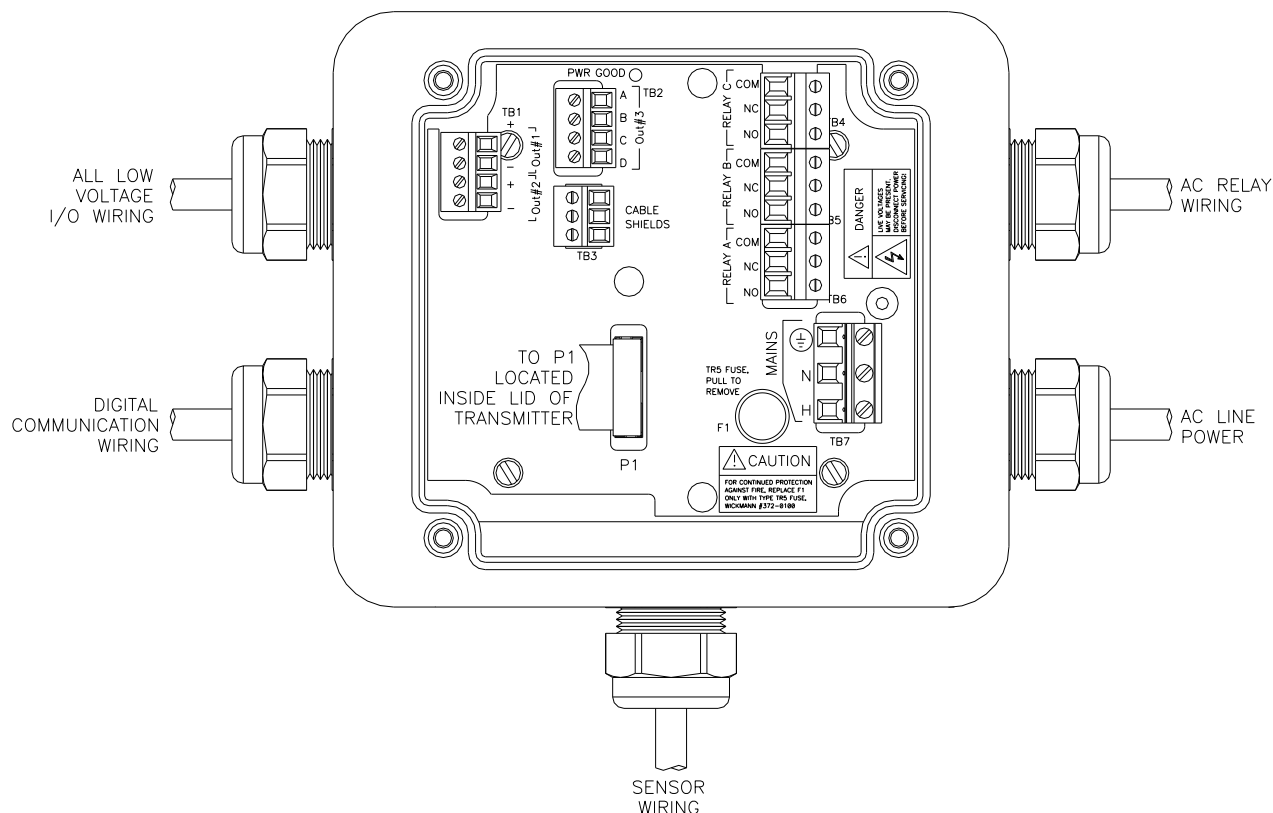

Figure 10 - Line Power Connection
1. Use wiring practices that conform to all national, state and local electrical codes. For proper safety as well as stable measuring performance, it is important that the earth ground connection be made to a solid ground point from terminal 12 (Figure 10).